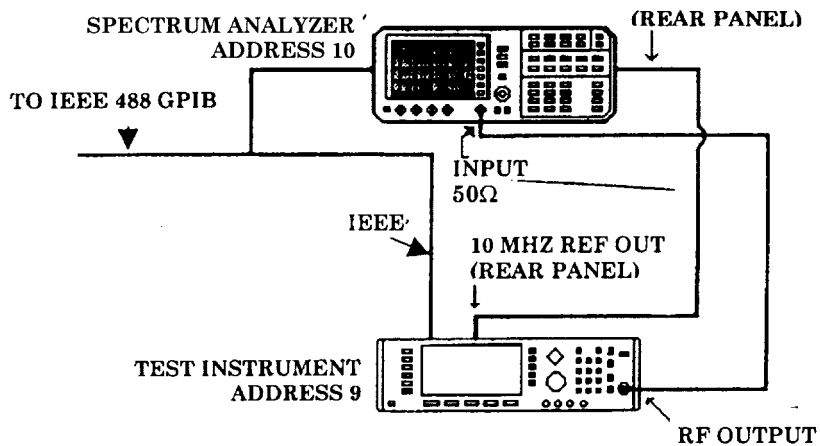

Figure 4. Spectral purity hookup.
- (1) Connect equipment as shown in figure 4.